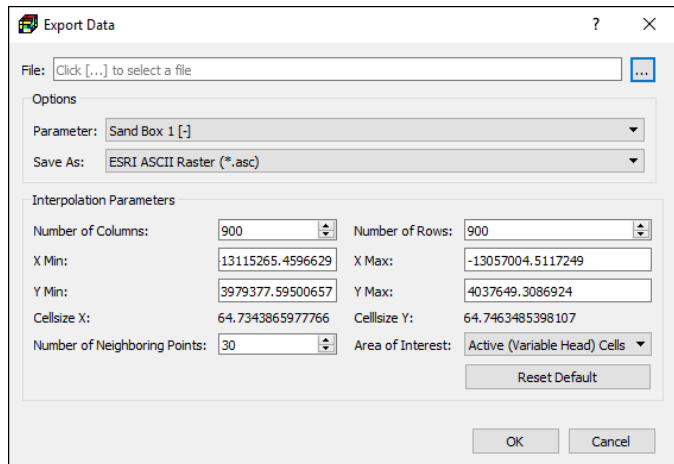

Figure 41. The Export Data dialog box
7. **Export:** Open the Export Data dialog box (Figure 41).